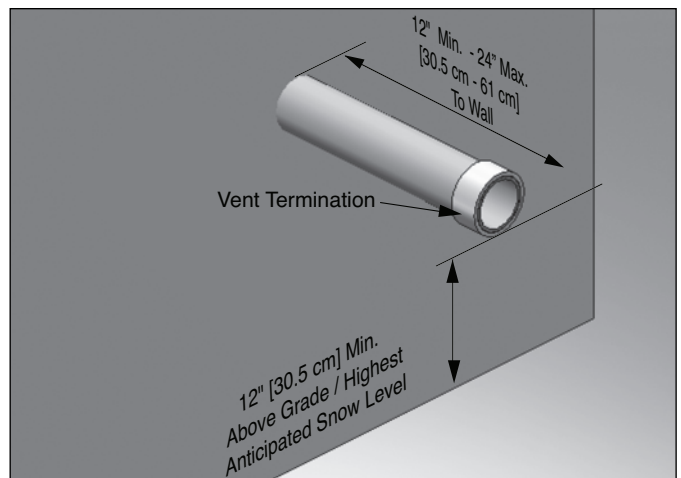
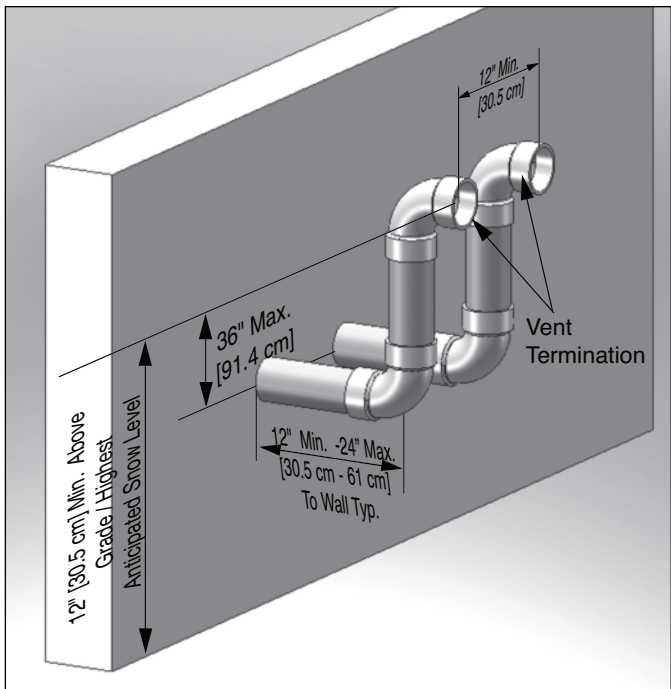

Fig. 17: Category IV - Sidewall Termination of Vent Pipe with Coupling Termination
Fig. 19: Category IV - Sidewall Vent Terminations of Multiple Boilers
- Using a coupling as shown in Fig. 17.
Do not extend the vent pipe outside the sidewall beyond the dimensions shown in Figs. 17 & 18. Extended exposure of the vent pipe could cause condensate to freeze and block the vent pipe.
3. Locate the vent pipe penetration to provide minimum clearances as described in Figs. 17 & 18 on page 28.
- Using a coupling as shown in Fig. 17 on page 28.
Do not extend the vent pipe outside the sidewall beyond the dimensions shown in Figs. 17 & 18 on page 28. Extended exposure of the vent pipe could cause condensate to freeze and block the vent pipe.
2. The wall penetration of the vent should be a minimum 12" [30.5 cm] from the adjacent vent pipe of another boiler for installations in the U.S as shown Fig. 19. For installations in Canada, provide clearances as required by CAN/CSA B149.1.
Fig. 19 shows one option for vent terminations of multiple PRESTIGE boilers. Any vent termination option shown in Figs. 17 & 18 on page 28 can be used for multiple PRESTIGE boilers. The 12" [30.5 cm] minimum distance between centerlines of the vent piping must be maintained for any chosen option.
Reference Figs. 17 & 18 on page 28 for the configuration dimensions of the vent for each unit installed in a multiple installation.